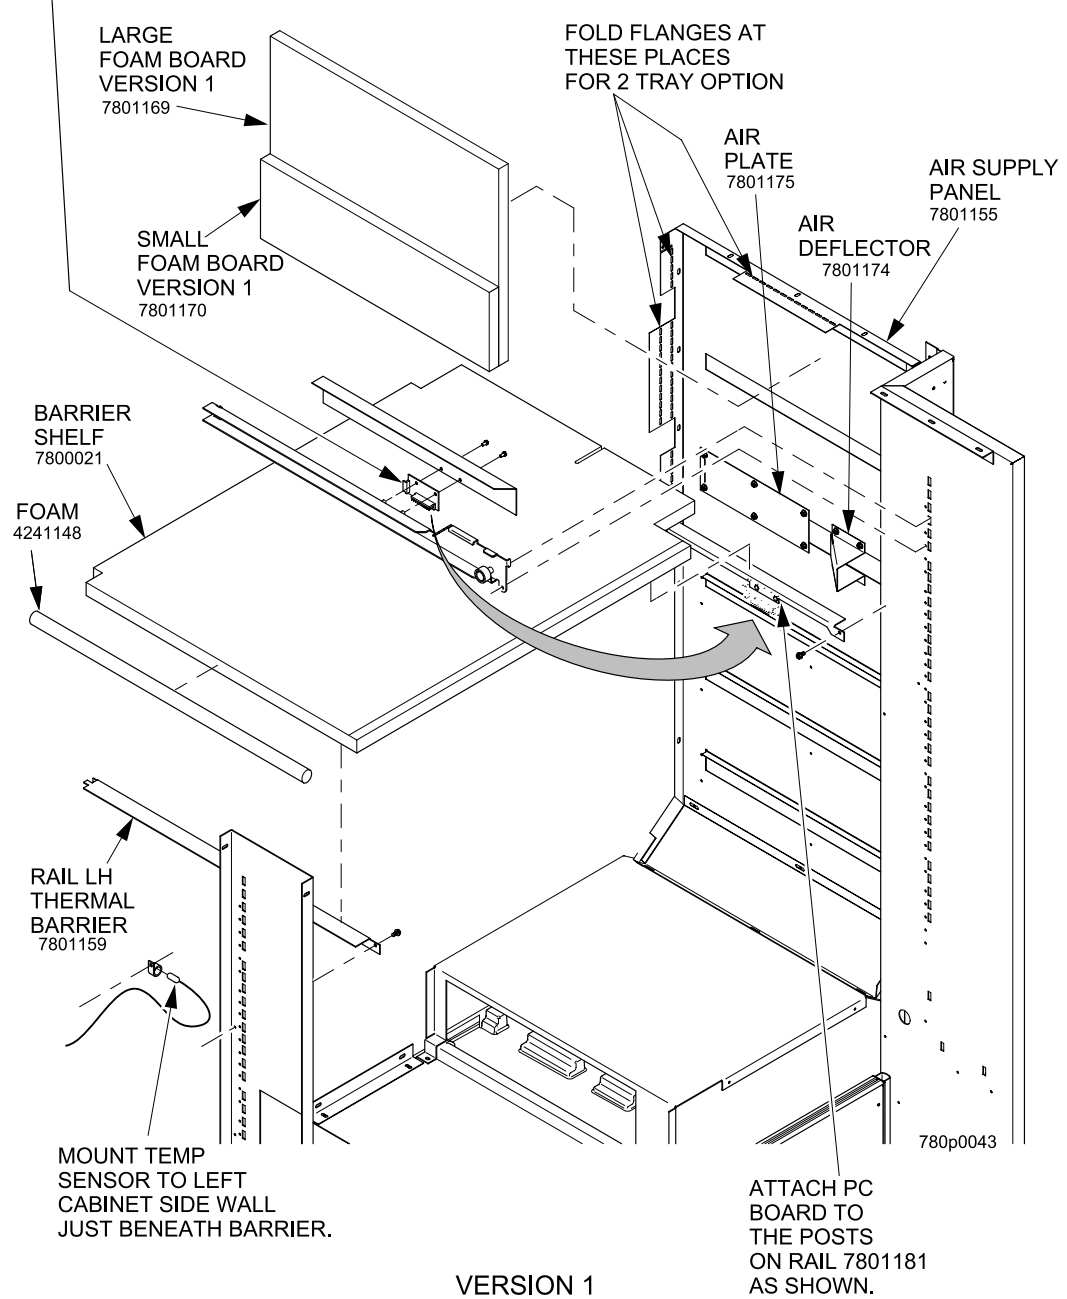

Figure 1 Two tray configuration
(REFER TO FIGURE 1)
6. Mount the tray rail board to the right side of the barriers mounting rail standoffs part #7801181 (see figure 1).
9. As you are holding divider shelf assembly up in the cabinet, mount the left and right rails part #7801159 and part #7801181 to the sides of the machine using one screw for each rail (see figure 1). There should be holes already pre-drilled on the right-hand side of the cabinet for these rails.
11. Place the small foam board part #7801170 next to the large foam board. Make sure that the small board is at the bottom of the large board as shown in figure 1.